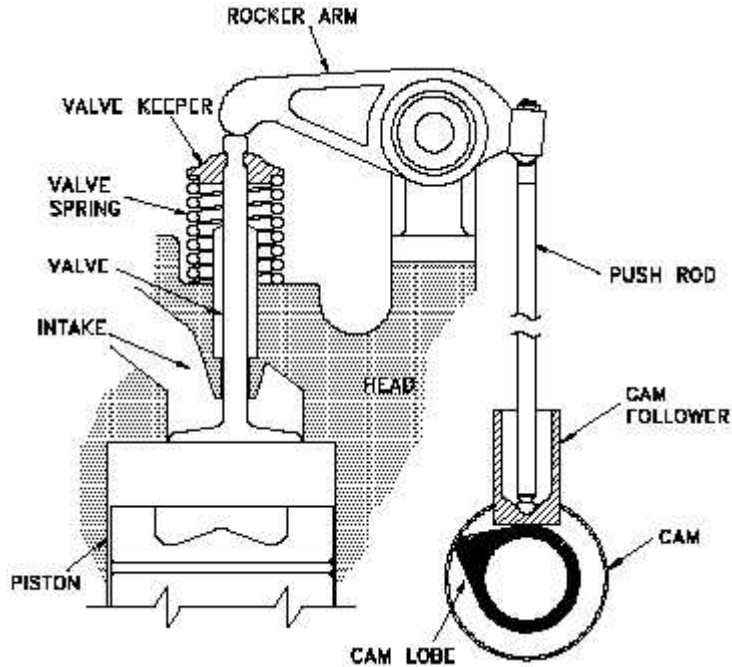

Figure 1 – Diesel Engine Valve Train Schematic (not drawn to scale)
In Figure 1, a schematic of a Diesel engine valve train is given. The (input) rotation of the cam causes the push rod to push the rocker arm. The rocker arms lever action pushes the valve down, opening it to allow an air/fuel mixture to enter. The valve spring ensures that the valve is pushed back into a closed position.
- d) A single row deep-groove ball bearing with 10 mm bore and 30 mm outer diameter is used on the rocker arm shaft in Figure 1. If the force on the bearing is 500 N and the bearing's basic load rating is 5.07 kN, what is the L_{10} life of the bearing? Assume no slip between the shaft and bearing. (2 pts)